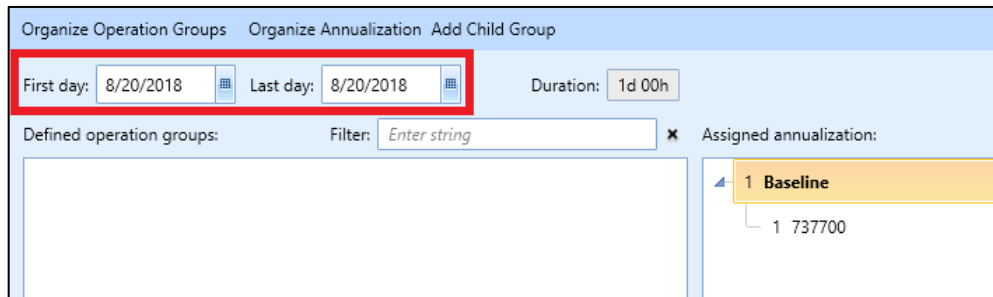

Figure 30. Create Annualization Wizard – Build Annualization
10. Make sure that the First day and Last day are both set to the default operation date, and that the *Duration* is 24 hours (Figure 30). If the two dates are different, it means that the operation time of one of the aircraft operations was not assigned correctly.